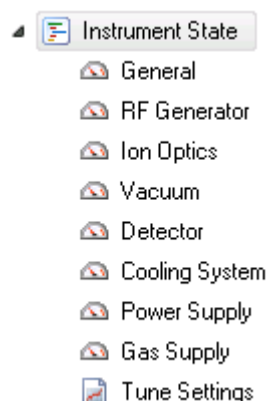

Figure 7-22. Instrument State submenus in completed LabBook
- Click  to open the **Instrument State** view, see Figure 7-22.